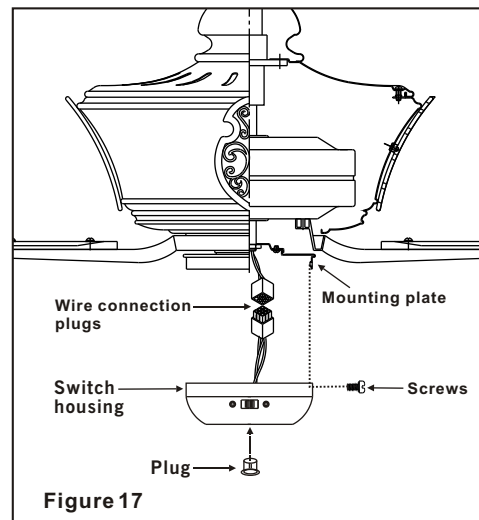

Figure 17
2. Attach the plastic plug to the switch housing. (Fig. 17)
4. Install the switch housing to the mounting plate with screws provided. (Fig. 17)